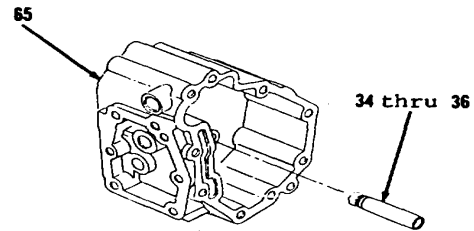

Figure 3-116.
15. Remove items 34 thru 36 as an assembly from housing (65, Figure 3-116).